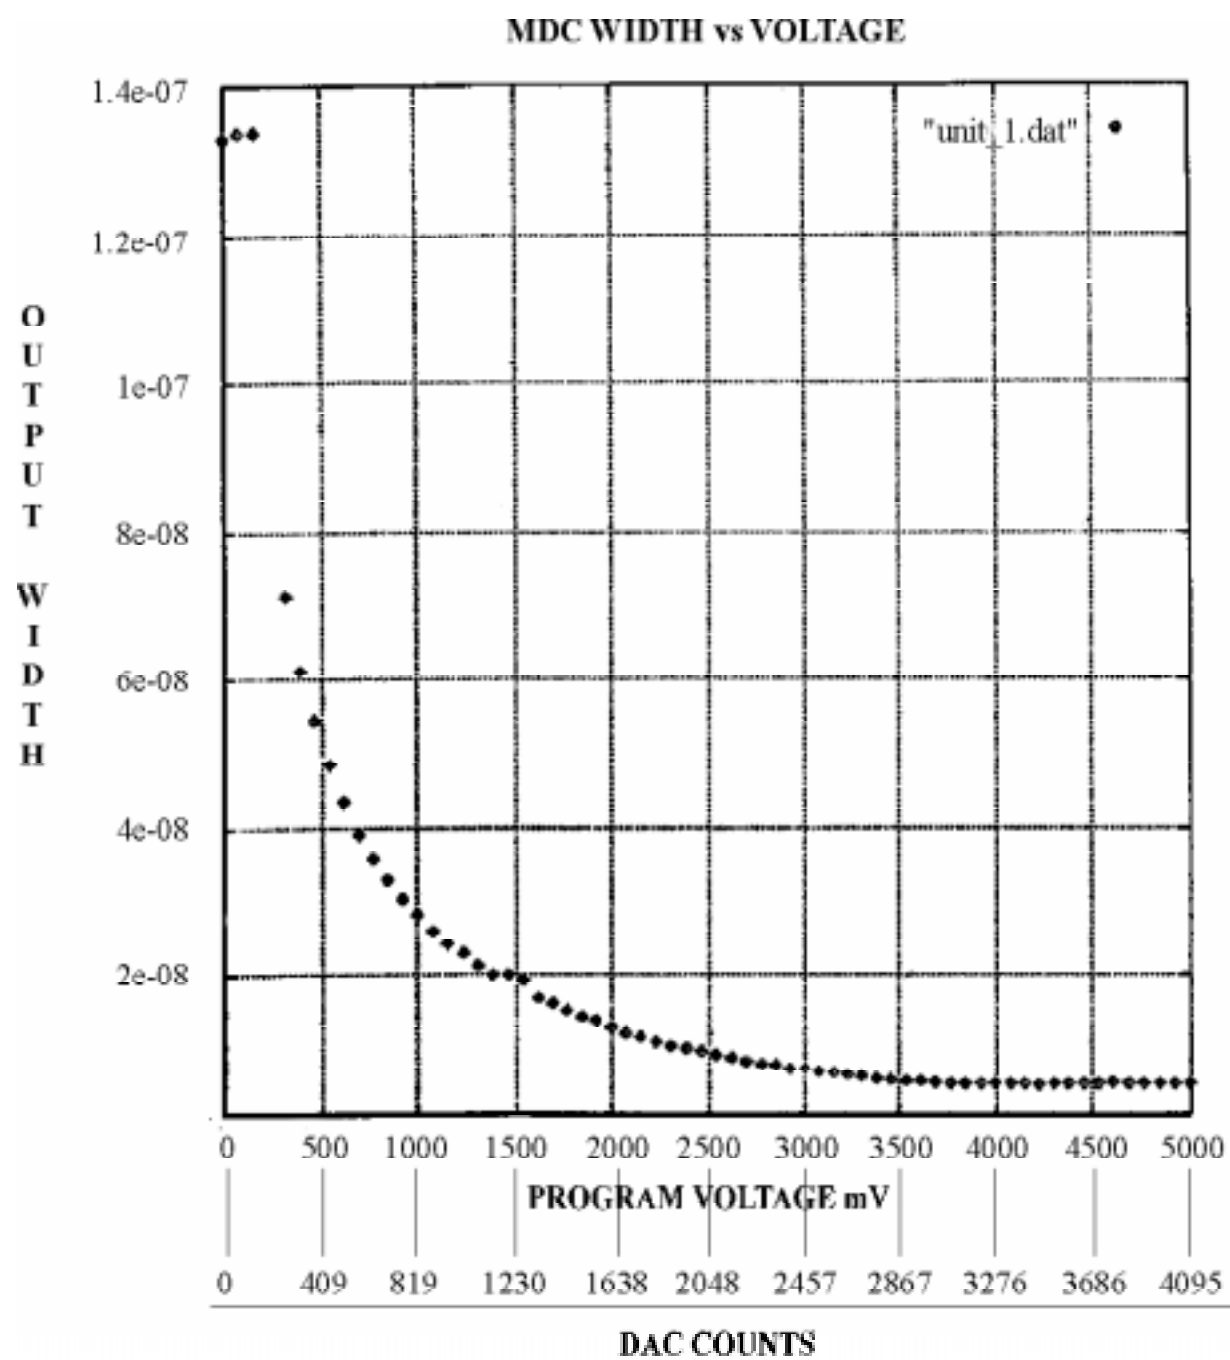

Figure 1
The output width is common for each channel and is continuously adjustable via a front-panel potentiometer or via CAMAC-F(16)•A(2) from < 5 nsec to > 100 nsec. Minimum width is set by turning the potentiometer fully counter clockwise. See Figure 1.
The 3412 front end consists of 16 custom designed bipolar chips. Each of the 16 channels uses 1 MDC100 chip. The chip is packaged in a 28-pin PLCC package. The MDC100 has built-in hysteresis to prevent misfiring due to fine structure riding on a flat topped pulse that may cross the threshold level many times. The amount of hysteresis is externally adjusted by a pot, common to all MDC100s, and set for about 5 mV. The signal applied to the input lemo connector of each channel is connected by a 50 ohm microstrip to the inverting input of the MDC100's comparator. The threshold level is applied to the non-inverting input of this comparator. When the input is large enough to cross the threshold level the output of the comparator switches from a high level to a low level. This negative going transition is applied as the clock to an internal D flop. If the specific channel is not masked by either the CAMAC Controlled Inhibit, Rear Panel Mask or the Front Panel Veto its D input will be forced to a logic "1". Upon receipt of the clock edge the flop will be triggered, and the Q output will be set to a logic "1" condition. The flop will remain set only long enough to start a timing ramp and then will be reset by the pulse timing section. It is this section that sets the width of the output pulse. The run up rate of the timing ramp and the threshold of the ramp comparator (used to sense the run up complete condition of the ramp) determine the output width. The current that is supplied to the ramp capacitor determines the run up rate, this current is set by "V Width". Likewise, the ramp comparator threshold voltage is also set by this voltage. Increasing V Width will increase the ramp run up current and also decrease the threshold level of the ramp comparator resulting in a decrease of the output width as shown in Figure 1.